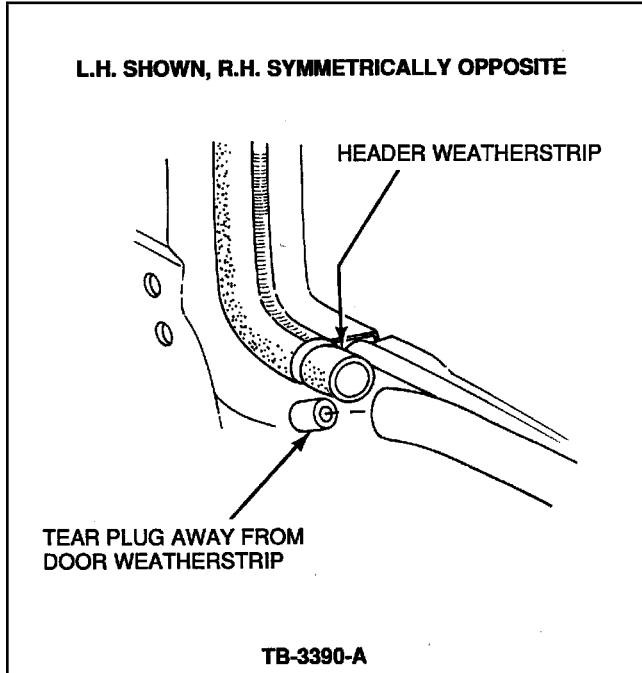

Figure 2 - Article 94-7-3
2. Tear plug away from the ends of door weatherstrips, Figure 2.